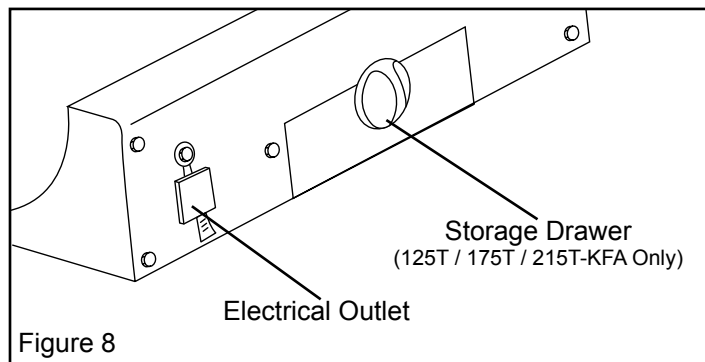

Figure 8
- Never plug an appliance with more than a 5 amp rating into this outlet (See Figure 8).